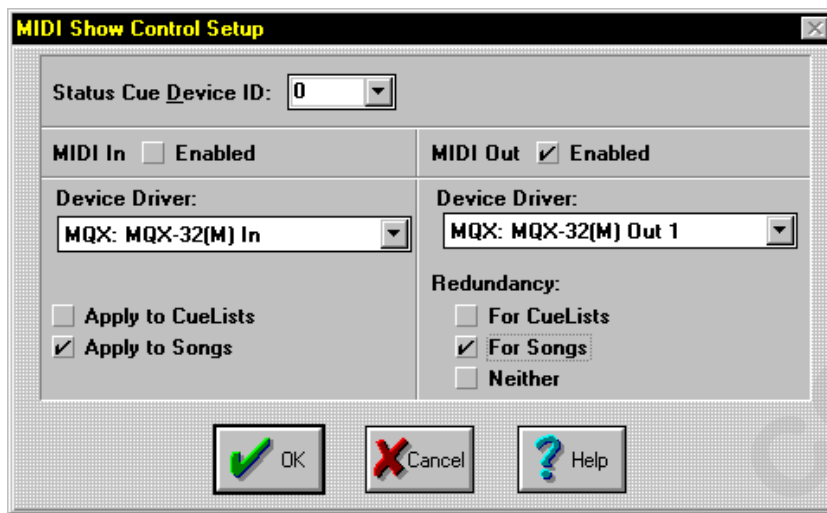

Figure B.1. MSC Setup Window
9. On both computers, select the **Configure** item from the menu bar in the **Status Cue** main window. Then, select the **MIDI Setup...** item from the **Configure** drop-down menu. This brings up the **MSC Setup** dialogue box. Refer to Figure B.1.